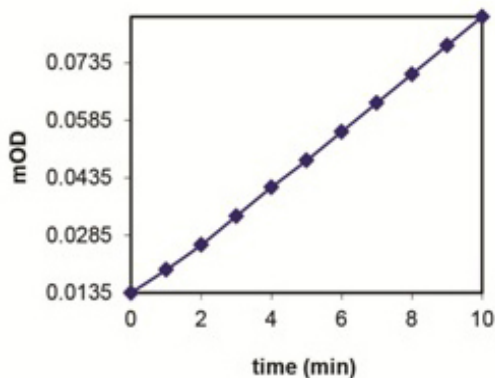

Figure 1. Plot of OD vs. time. Slope= $V=7.00\text{E-}03$ OD/min
1. Plot data as OD versus time for each sample (see Fig. 1).